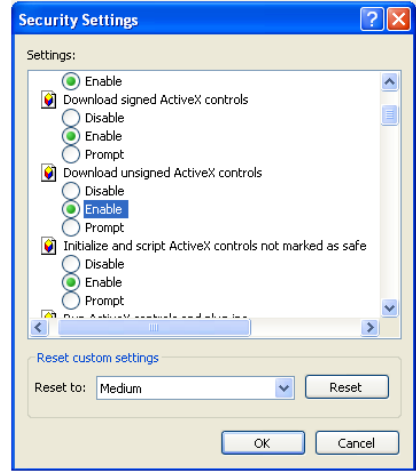

Fig 4-2
③ Enable all the sub-options under “ActiveX controls and plug-ins”. Refer to Fig 4-2